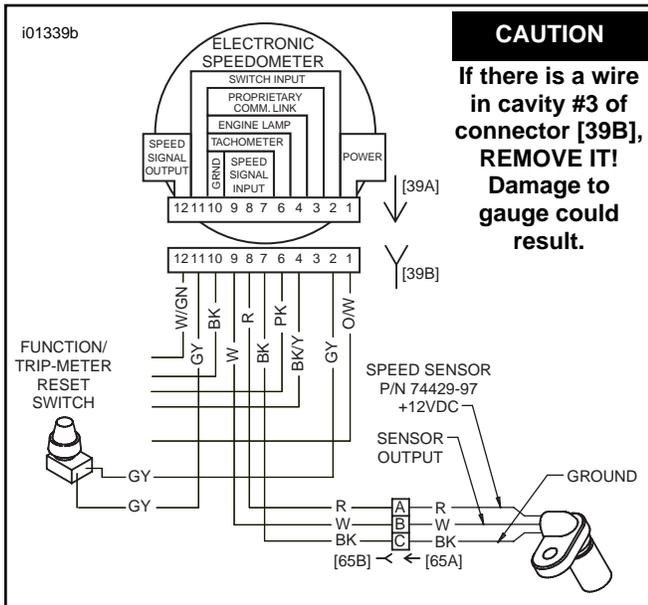

Figure 1. Wire Connections At New Speedometer.
- See Figure 1. Verify that new connector [39B] is wired as shown. Plug connector [39B] into the new speedometer/tachometer.